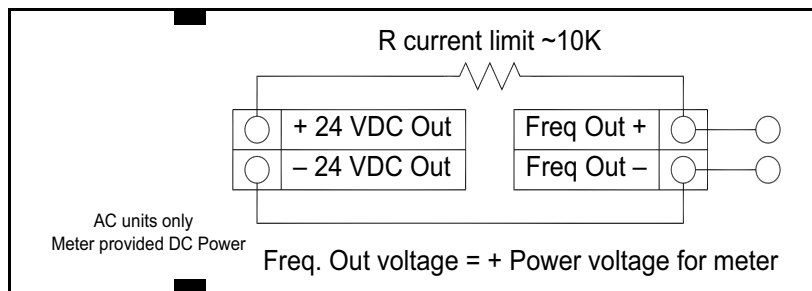

Figure 41: Isolated Frequency Output Using Meter-Provided Power Supply
- For AC powered meters only, use the internal 24 VDC power supply (see *Figure 41* on page 43). Use this option if the voltage of the frequency output is the same as the voltage supplied to the circuit.